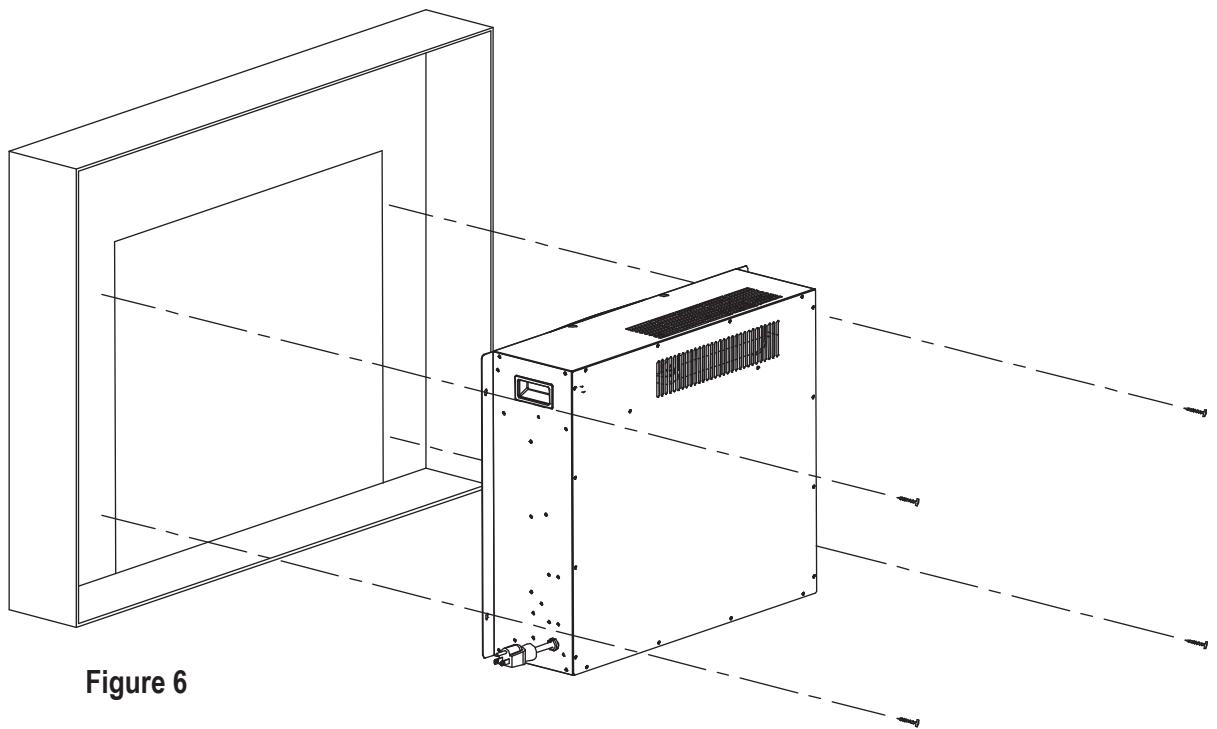

Figure 6
2. Locate the final location of your fireplace. Making sure that you have clear access to an electrical outlet, position the fireplace mantel close to it's final location, leaving enough room to access the front of the mantel. Use (4) M4 x 12mm Wood Screw (B) to affix the fireplace to firebox. [Figure 6]